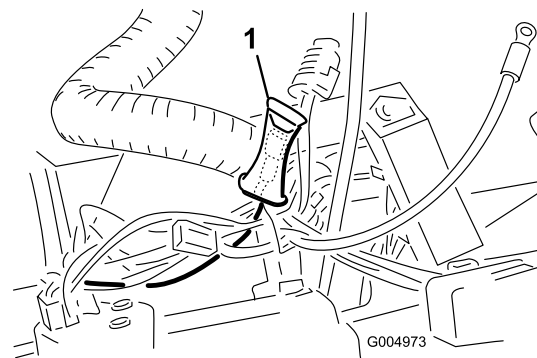

Figure 28
4. Inside the control panel, locate the pink wire with the connector enclosed in a plastic bubble (Figure 28). Carefully cut off the end of the plastic bubble and plug the appropriate wire connector into it. Close and latch the control panel cover.